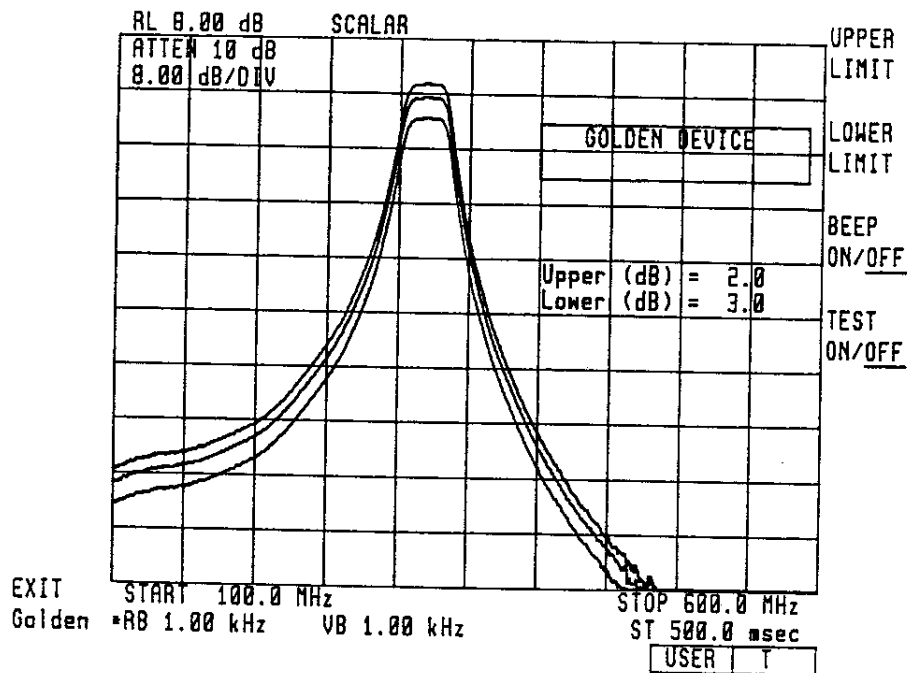

Figure 5-3. Measurement Softkeys
5. Press **LOWER LIMIT** and enter a lower limit in dB. Press **ACCEPT VALUE** (Figure 5-3).